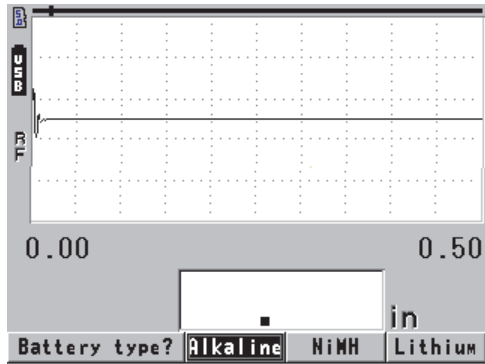

Figure 2-4 Selecting the battery type
12. To answer the question appearing at the bottom of the screen (see Figure 2-4 on page 33):